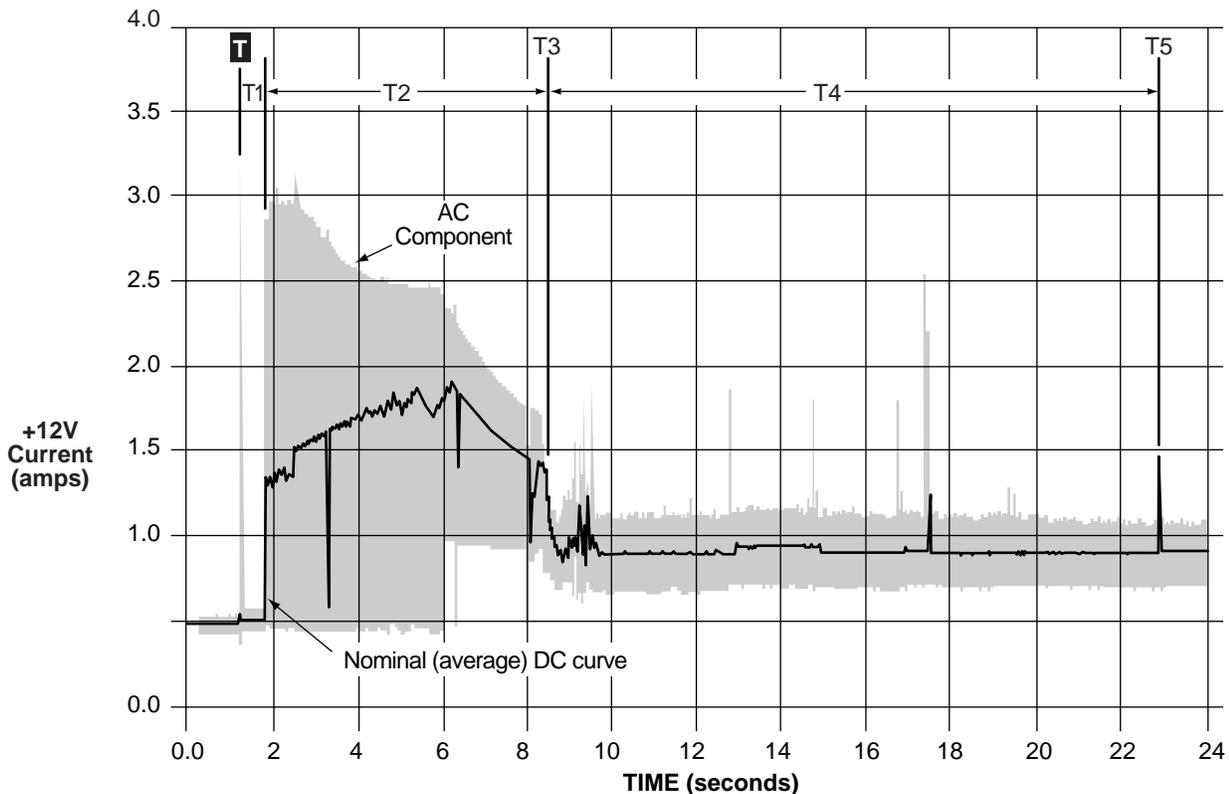

Figure 3a. Typical Barracuda 9LP family drive +12 V current profile
- [3] See +12 V current profile in Figure 3a.
Figures 3a and 3b identify the drive +5 V and +12 V current profile. The current during the various times is as shown: